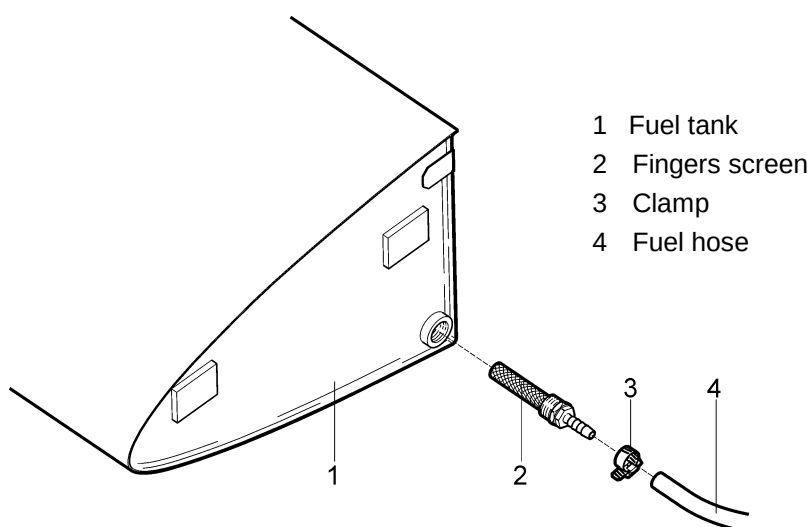

Fig. 9-5: Finger screen removal / installation
- (c) Remove the hose clamp (3, Fig. 9-5) and disconnect the fuel hose (4).
- (d) Remove the finger screen (2).
- Screw the finger screen (2, Fig. 9-5) into the root tank rib – use LOCTITE 565 or equivalent sealant on finger screen thread.
- Connect fuel hose (4) on the finger screen; tighten the hose clamp (3).